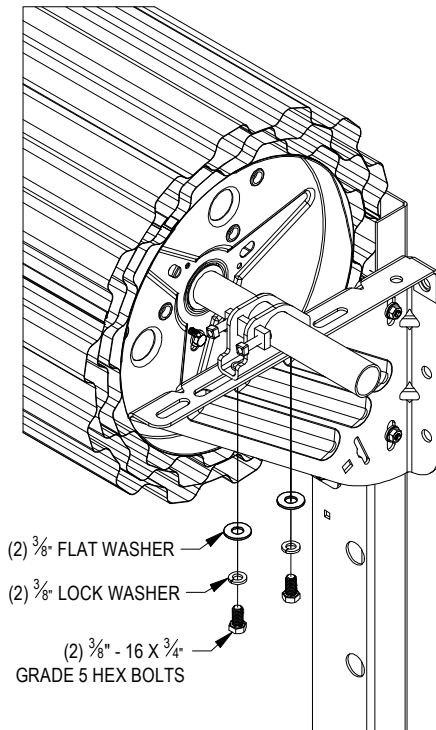

FIGURE 18:
- Attach stamped axle support to door bracket using two (2) each $\frac{3}{8}$ " - 16 x $\frac{3}{4}$ " Grade 5 Hex Bolts, $\frac{3}{8}$ " Lock Washers, and $\frac{3}{8}$ " Flat Washers. **See Figure 18.**